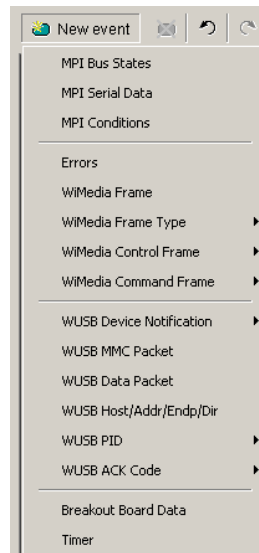

Figure 7.8 Creating a New Event
Step 1 Click the **New Event** button at the left side of the toolbar to display the New Event pop-up menu (Figure 7.8).